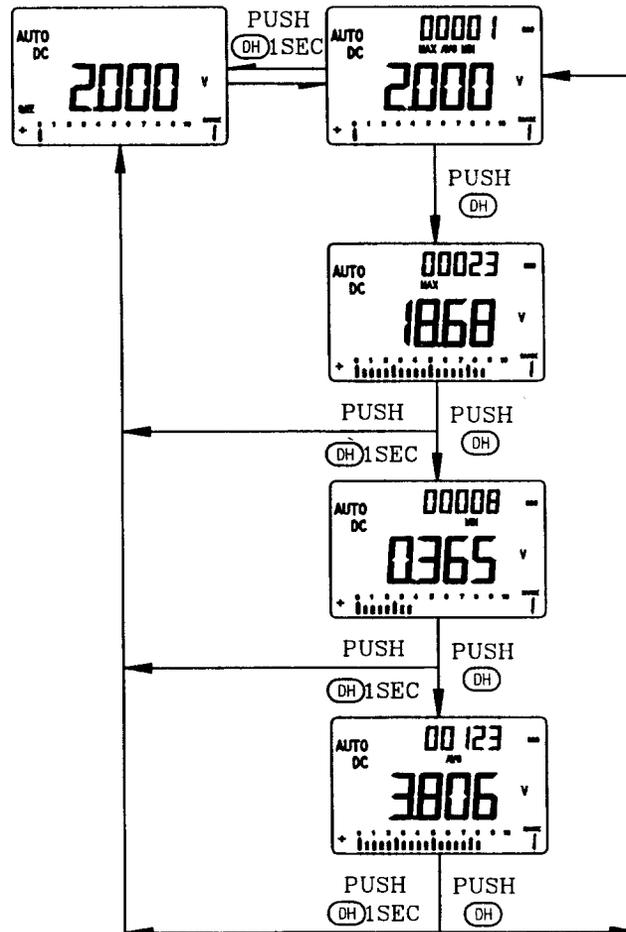

Figure 6. Display of Dynamic Recording
- 3) Press this button momentarily to cycle through maximum, minimum, average and present readings. The **MAX, MIN, AVG** or **MAX AVG MIN** annunciator turns on respectively to indicate which value is being displayed. See **Figure 6**.